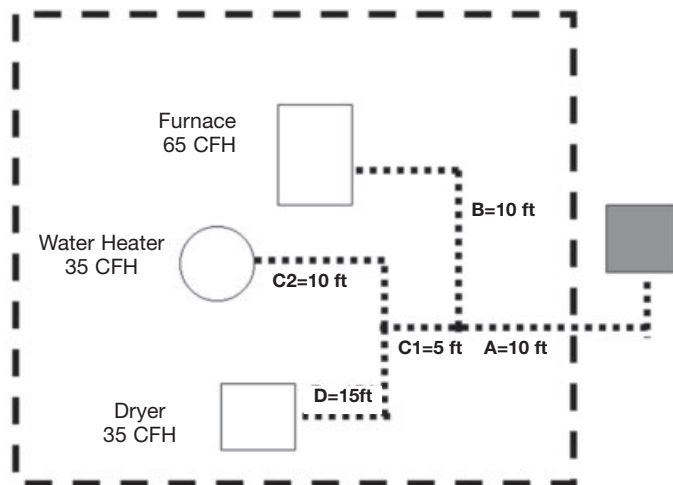

Figure: 3-8
1. The system presented in Figure: 3-8 is similar to that in 3-1, a single-family instal-